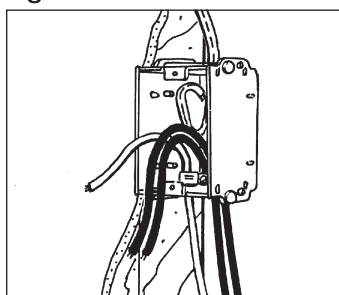

Fig. 4
- Trim excess length of supply branch circuit, cold lead and temperature sensor cables, as necessary, leaving about 6" projecting from the Electrical Connection Box (ECB), see Figure 4.